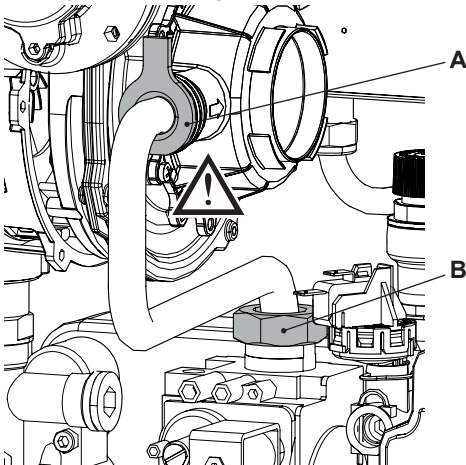

Figure 8.1
- Unscrew the swivel joint **B** and remove the gas pipe **A** (Figure 8.1).
**Note:** to reassemble, repeat the operations in reverse order, being careful not to damage the gas pipe OR gasket when the pipe is inserted in the gas/air mixer. Carry out the gas tightness test after tightening the gas pipe swivel joint (Figure 8.1).